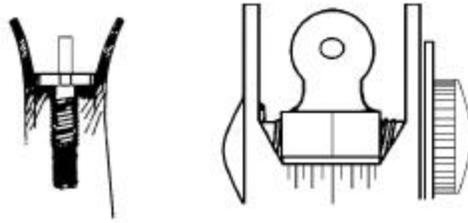

Figure 4
- (1) Ready Position. The shooter faces to his/her firing side, spreading feet a comfortable distance apart. The firing hand is on the pistol grip with finger outside the trigger guard, indexed along the receiver, and the nonfiring hand is on the handguard. The weapon is held waist high and pointed down range at the target.
- (2) Prone Barricade Position. The body is flat on the deck at approximately 30° to the target with 80% of the body behind cover. The reaction elbow is “directly” under the rifle, as far as body conformation permits without putting direct pressure on the magazine. The handguard is resting on the heel of the thumb just aft of the swivel. The hand, not the weapon, may rest against the barricade. The strong hand grips the pistol grip with the elbow out approximately 30°, supporting the upper body. NO part of the pistol grip, magazine, or hand should be resting on the deck. The stock is firmly held in the shoulder “pocket” of the shoulder by the slight aft pull of the strong hand. The cheek is in the “stock weld”. With the M16, the shooters nose should be touching the charging handle as a reference point.
- (3) Offhand Position. The shooter faces to his/her firing side, spreading feet a comfortable distance apart. The firing hand on the pistol grip and the nonfiring hand is on the upper handguard. The shooter places the butt of the rifle in the pocket formed by the firing shoulder so that the sights are level with the eyes. The weight of the rifle is supported by the firing shoulder pocket and nonfiring hand. The shooter shifts feet until he/she is aiming naturally at the target with weight evenly distributed on both feet.
- (4) Close Quarters Battle (CQB) Position. For use with Carbine or Submachine Gun ONLY. The shooter stands with upper body square to the target(s) with feet slightly wider than shoulder width apart. Knees are bent with the shooter leaning forward, shoulders just forward of the knees. Weapon is brought center of the chest slightly to the shooter's strong side. Shooter's strong hand grasps the pistol grip, and the reaction hand grasps the handguard with both elbows pointed downward (tucked in) supporting the weapon.
- (5) Kneeling Supported Position. This position is assumed quickly and provides for a stable firing position. The reaction foot is forward approximately ½ step. The strong knee is on the deck. The shooter shifts body until aiming naturally at the target. With the firing hand on the pistol grip and the nonfiring hand on the upper handguard (not the magazine), the shooter places the butt of the rifle in the pocket formed by the firing shoulder so that the sights are level with the eyes. The weight of the rifle is supported by the firing shoulder pocket and nonfiring hand. The nonfiring elbow should be pushed forward of the knee so that the upper arm is resting on a flat portion of the knee to provide stability.
- (6) Kneeling Unsupported Position. Same as the kneeling unsupported position with the exception that this position allows the shooter to obtain the height necessary to better observe many target areas, taking advantage of available cover. Solid cover, which can support any part of the body and can assist in improving firing accuracy, may be used.
- d. Sight Alignment for M16. Sight alignment is the relationship of the front sight to the rear sight. The rifle is equipped with a post type front sight and a flip type peep sight in the rear. (See figure 4.)